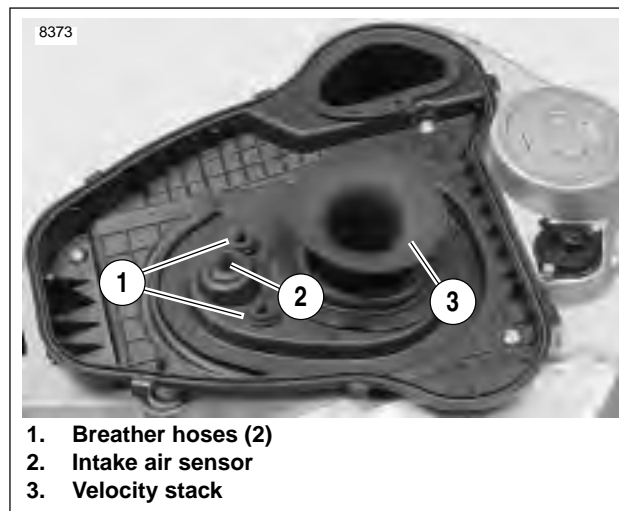

Figure 1-40. Air Cleaner Baseplate Assembly
3. See Figure 1-40. Make sure two crankcase breather hoses (1) and intake air sensor (2) are captured in baseplate behind velocity stack (3).